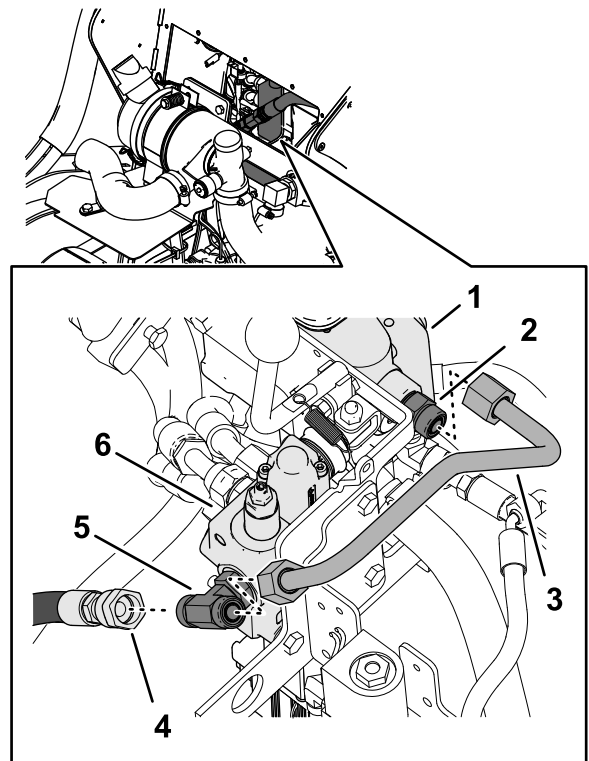

Figure 8
3. Disconnect the pump hose from the tee fitting, and plug the hose (Figure 8).
1. Remove and discard the short tube shown in Figure 8.